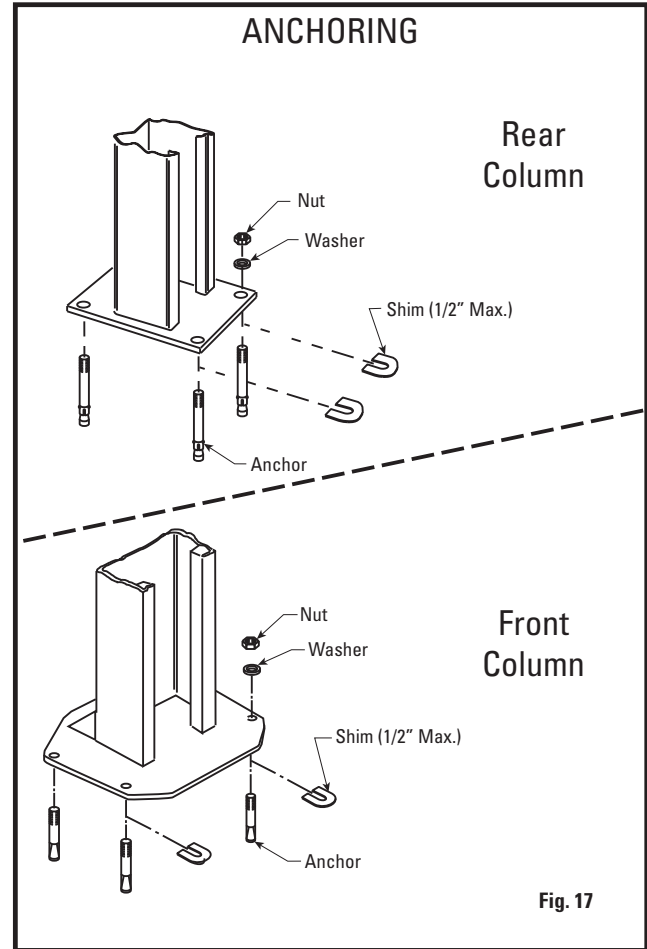

Fig. 17
2. Place shims (estimated from Step 3) under each column. Drill four 5/8" diameter holes through concrete floor using holes in baseplate as guide, Fig. 17.